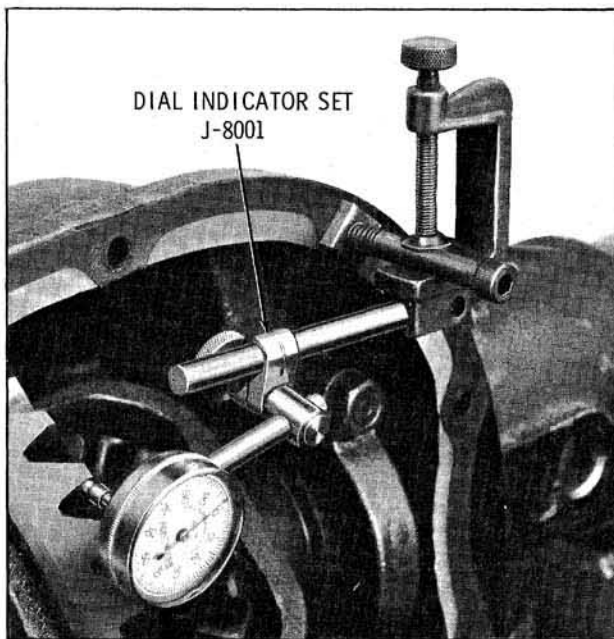

Fig. 10-38 Checking Ring Gear To Pinion Backlash
2. Rotate differential case several times to seat bearings, then mount dial indicator as shown in Fig. 10-38. Use a small button on the indicator stem so that contact can be made near heel end of tooth. Set dial indicator so that stem is in line as nearly as possible with gear rotation and perpendicular to tooth angle for accurate backlash reading.